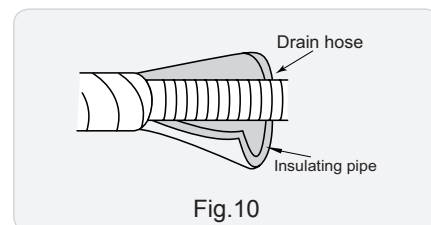

Fig.10
(3) Add insulating pipe in the indoor drain hose in order to prevent condensation.(As show in Fig.10)